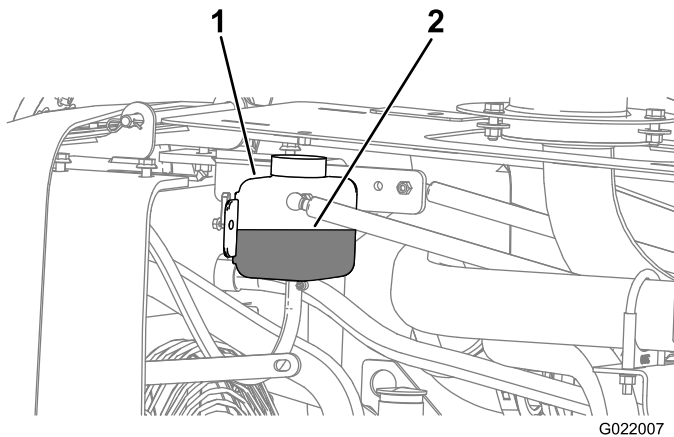
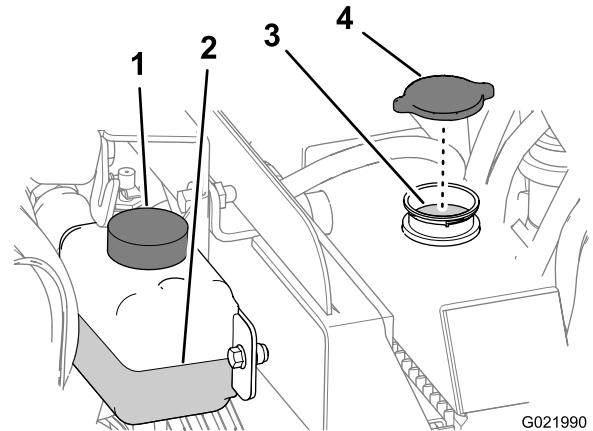

Figure 100
Figure 101
4. Check the coolant level in the reservoir (Figure 100).
4. Remove the radiator cap from the filler neck of the radiator and check the coolant level (Figure 100 and Figure 101).
5. If the coolant level is low, add coolant until the level is up to the bottom of the filler neck (Figure 101).
6. Install the radiator filler cap, ensuring that it is tightly sealed (Figure 101).
4. Remove the radiator cap (Figure 101).
2. Remove the radiator cap (Figure 101).
4. Install the radiator cap (Figure 101).